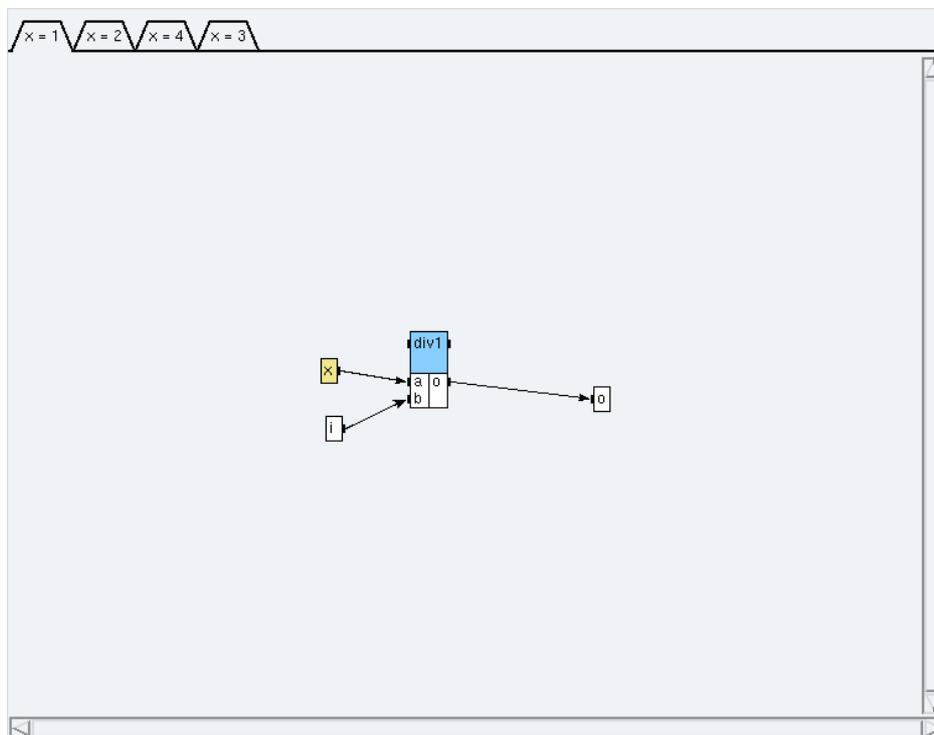

Figure 5.2: Condition x=1
- * click on the condition **x=1** (*cf.* figure 5.2) and create a reference `div1<1>` to the definition `int/Arit_div`,